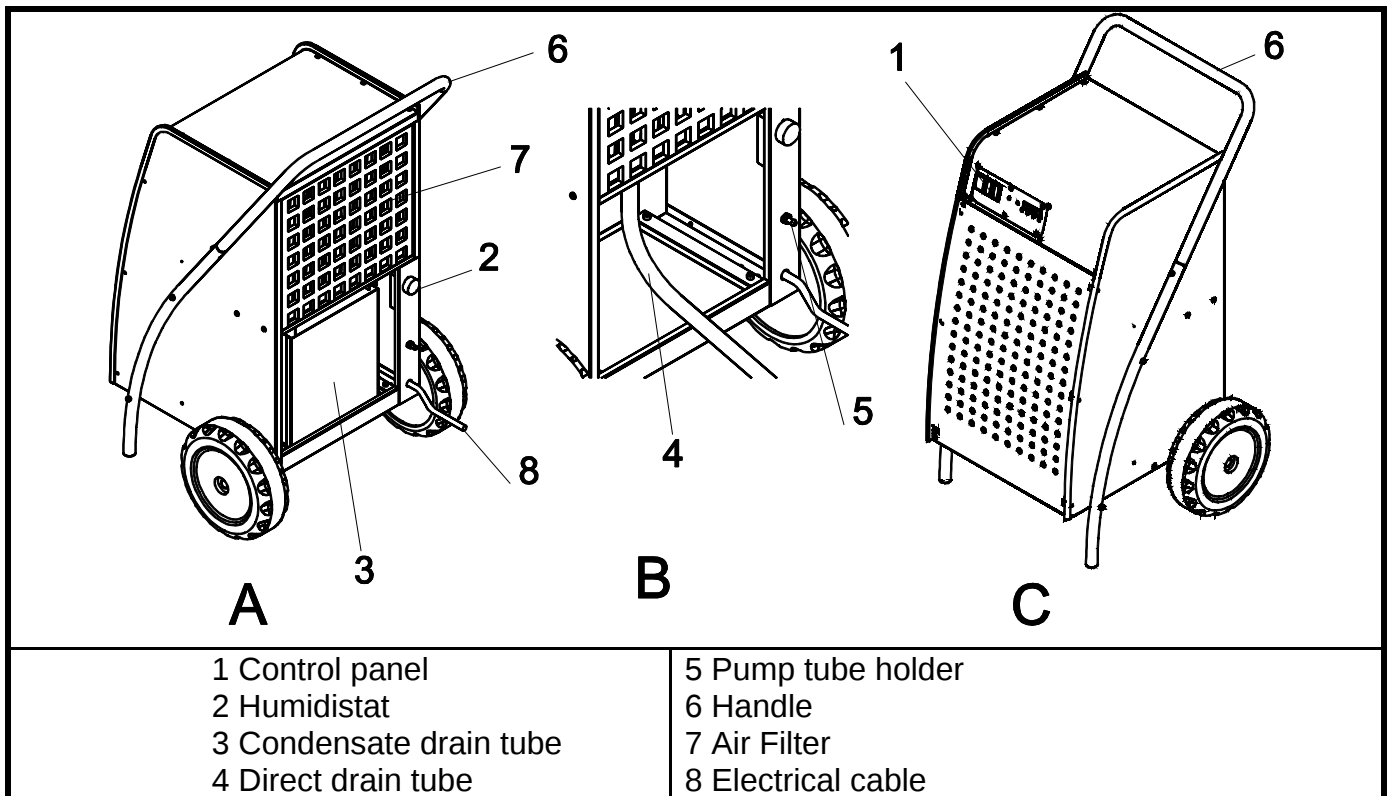

Fig. 3 Views
condensation process of the coolant gas and the energy dissipated by the compressor (1) and, to a lesser degree, by the fan (4). Then the air is discharged from the dehumidifier at a temperature higher than the temperature at which it entered. The temperature rises by about 5°C. The moisture of the air being recirculated continuously in the unit drops and is dehumidified rapidly and gradually. In the next paragraphs we will see in detail the role of all the components shown in Figure 2 while the outward appearance of the machine with the position of the major parts is shown in Fig. 3.
As shown in **fig.3**, the machine is supplied in a cardboard box on a wooden pallet to facilitate its transportation and handling. Inside is the handle (6) with lock screws and the present manual.
As shown in **fig.3**, before starting to install and start up the unit, it is recommended to follow these suggestions and take the following precautions:
- In a case of direct drainage by means of the tube 4 (fig.3), make sure the slope between the machine connection and the drain point is sufficient to ensure drainage of the condensates by force of gravity; otherwise the machine could become flooded; for the EFT PLUS series this is not a problem if you select operation with the pump supplied and secure a tube to the tube holder 5 (fig.3).
- Select the relative humidity you wish to have by turning the humidistat knob (Figures 3 and 4); if the ambient humidity is lower than the humidity set on the humidistat, the dehumidifier does not start.